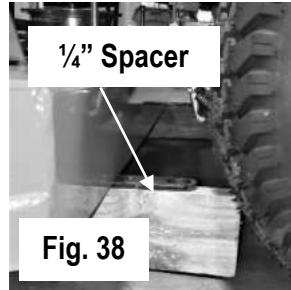

Fig. 38
3. Lower the deck down onto the 2x4's using either the deck lift pedal or the electric actuator, whichever your mower is equipped with. The deck should now be approximately 3 1/2" off the ground. to achieve the proper 1/4" pitch down in the front it may be necessary to use some 1/4" spacers under the rear of the deck as shown in Fig. 38.